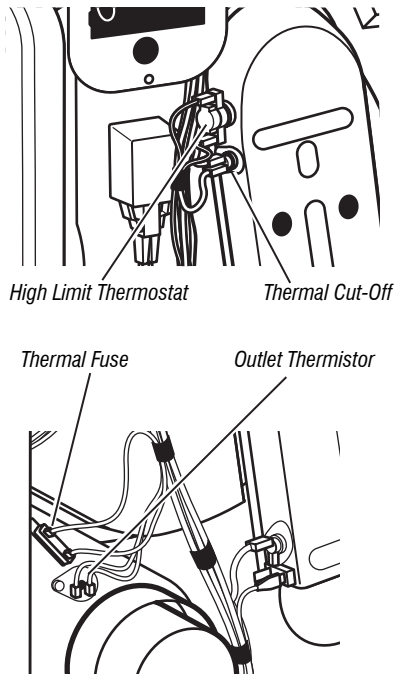

Figure 9 - Thermal components, gas dryer.
4. Locate the high limit thermostat (see figure 9). Measure the continuity through it by connecting the meter probes to the black and light blue wire terminals.